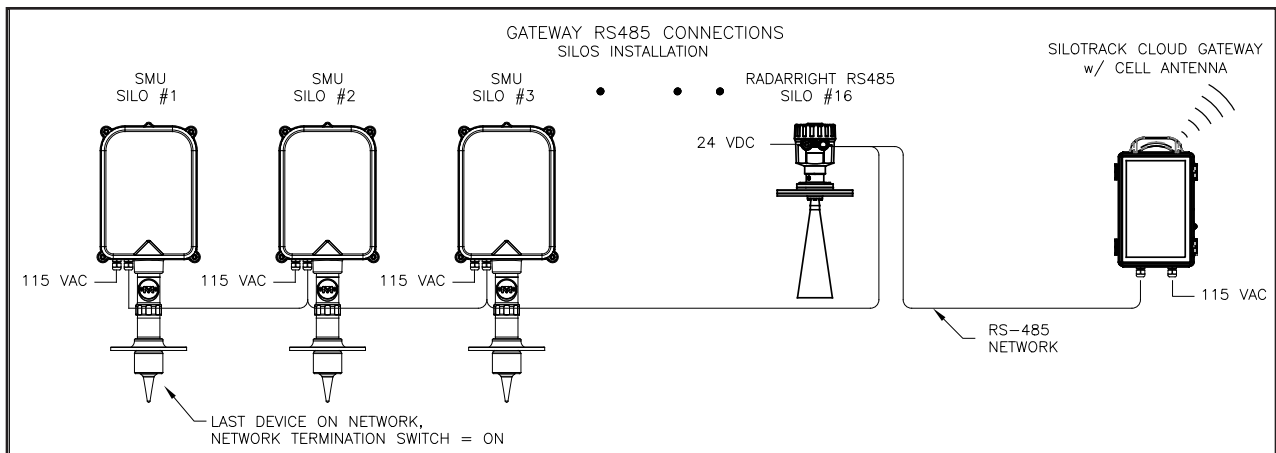
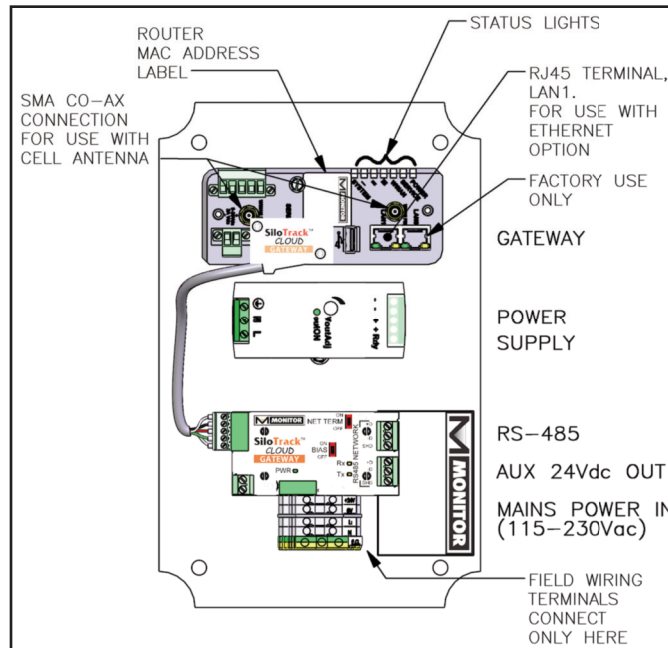

Figure 2 - Gateway RS-485 Connections
Figure 3 - Gateway Assembly
2.3 Electrical Installation (See Figure 2 and Figure 3)
3.1 Gateway Network Load Termination (See Figure 3)